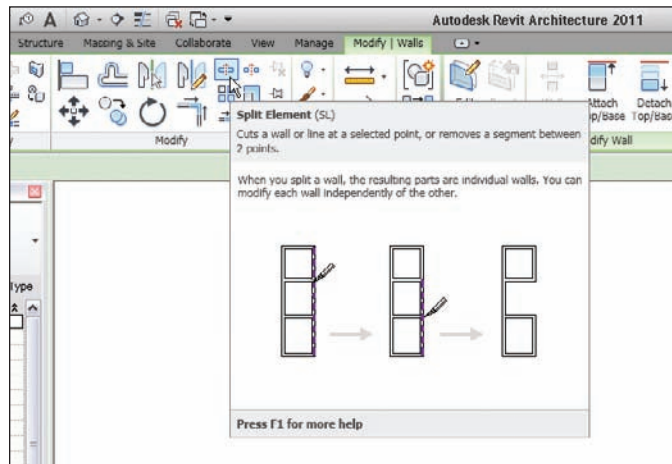

FIGURE 2.45 Using the Split Element command
1. On the Modify panel of the Modify tab, click the Split Element button, as shown in Figure 2.45.